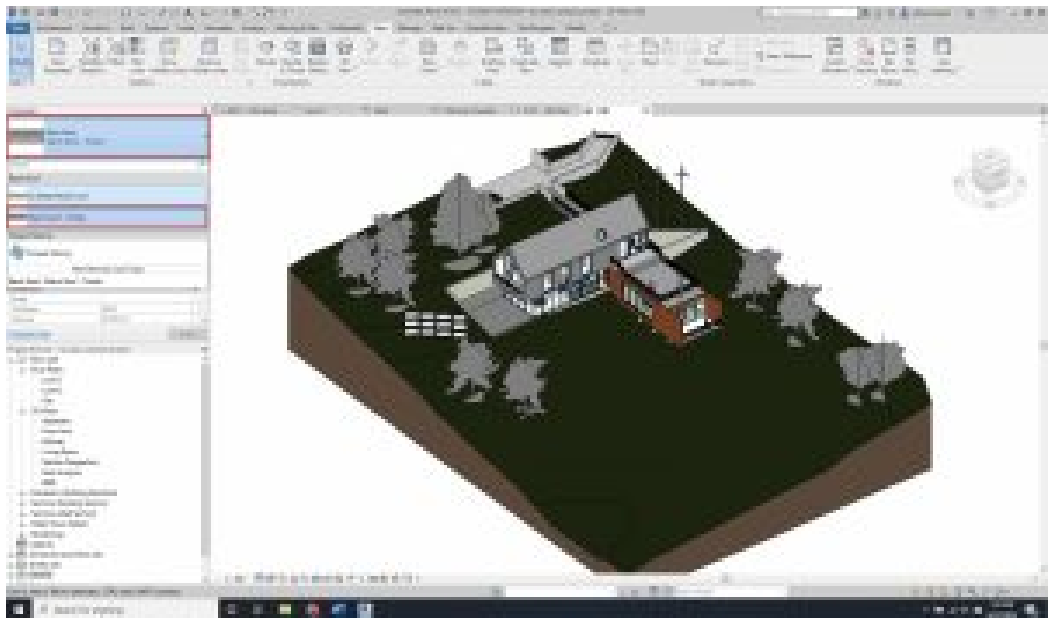

Figure 1.10 Type Selector: Warm Roof – Timber
3. Choose Warm Roof – Timber as shown in Figure 1.10